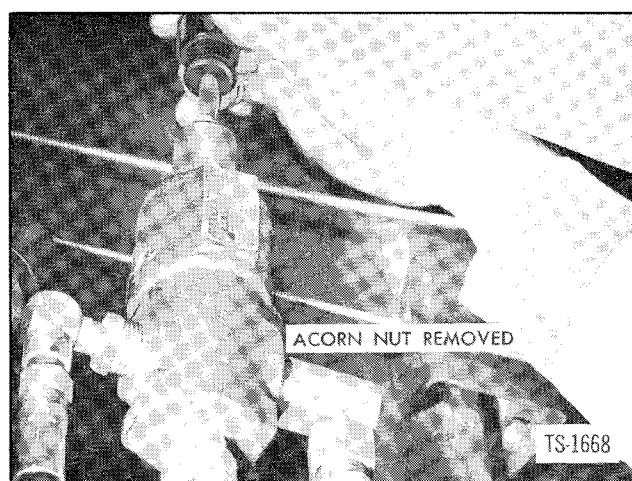

Fig. 23. Adjust Pressure — Steering Relief Valve
4. Remove acorn nut on top of valve, and loosen locknut. Insert screwdriver and turn screw clockwise to increase pressure, counterclockwise to decrease pressure. See Figure 23. Turn screw in increments of approximately one revolution or less, set locknut, and retake reading. Repeat until gauge reads 1000 psi.